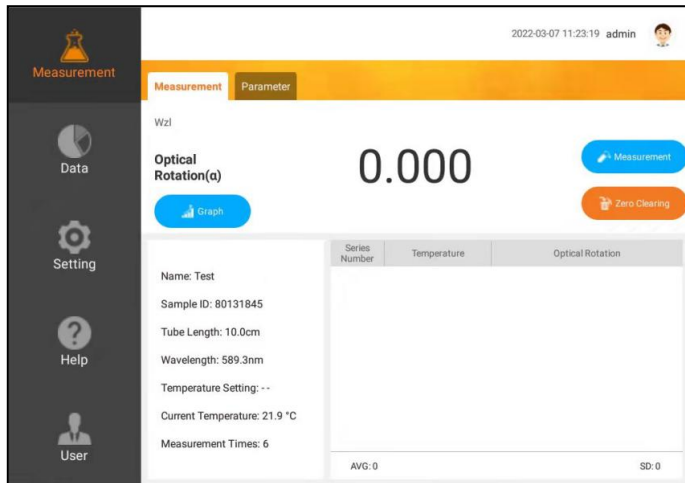

Fig 43
8. Click the menu bar in the upper left corner of the instrument interface and select "Data" in the popup frame, as shown in Fig 43